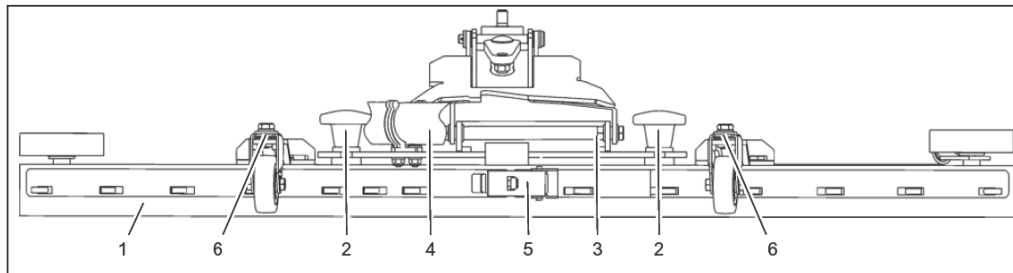

Fig. 11
3. Unlock the fastening device (Fig. 11/5) and remove the outer squeegee blade. Turn the squeegee blade or install a new one, as necessary. Change the inner squeegee blade in the same way.